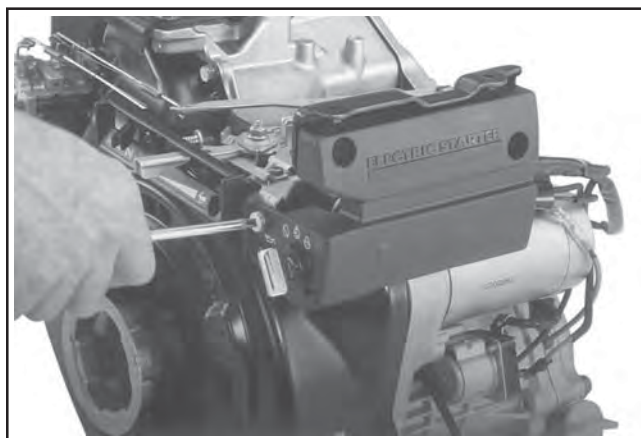

Figure 11-99. CS8.5 (spec. 92xxxx), CS10, CS12. Attaching Electrical Starter Cover Panel.
2. Attach the electric starter cover panel (if so equipped) to the right tank support with the three phillips head screws and one flange nut. See Figure 11-99.